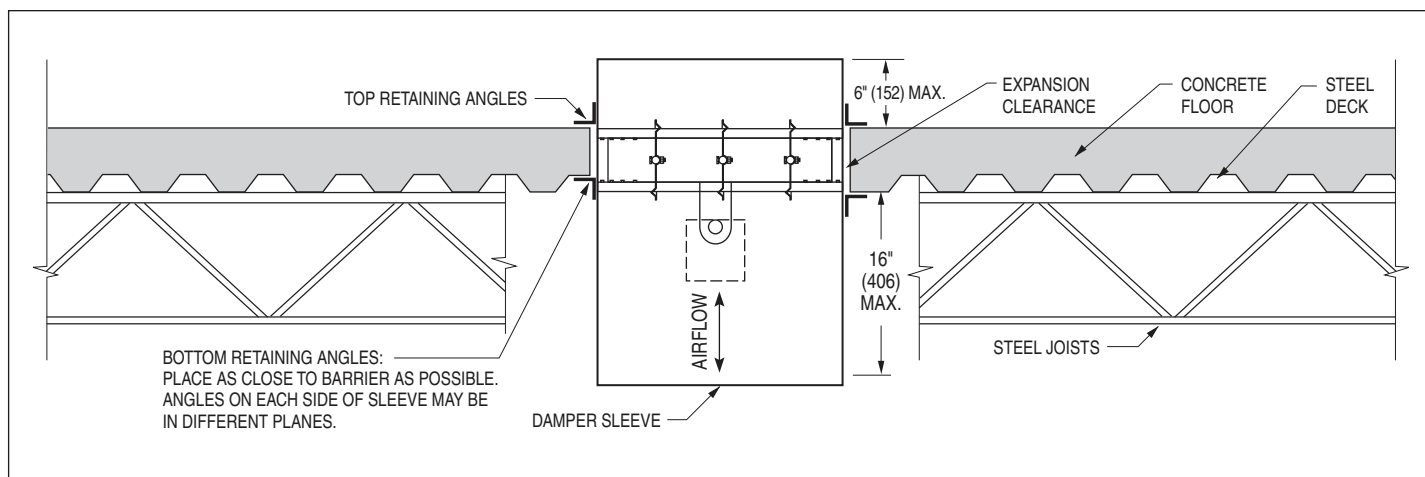

Fig. 1. Floor Opening Detail.
2. Installation of the bottom angle against the uneven steel deck shall be done so the angles on each side of the sleeve are as close to the barrier as possible. The angles may be in different planes relative to each other (see Figures 1 and 2).